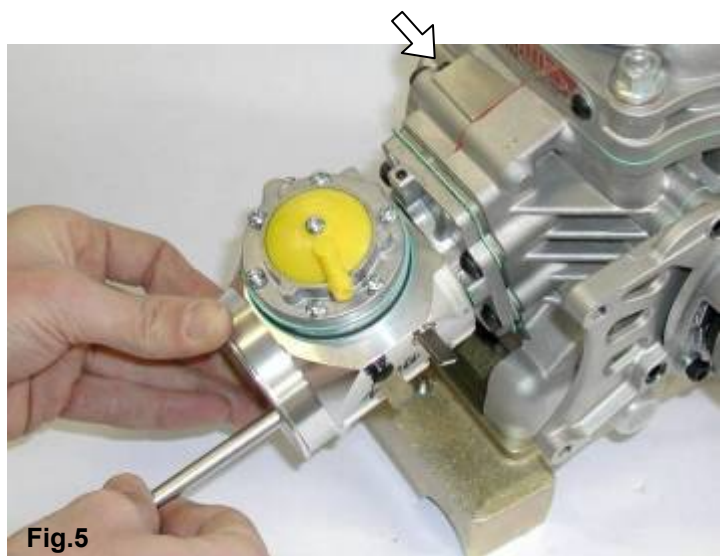

Fig.5
**DO NOT TIGHTEN THE SCREW** (SEE FIG.5).
**TORQUE AT A 6 ÷ 10 Nm (50 ÷ 90 in-lb)** (SEE FIG. 5).